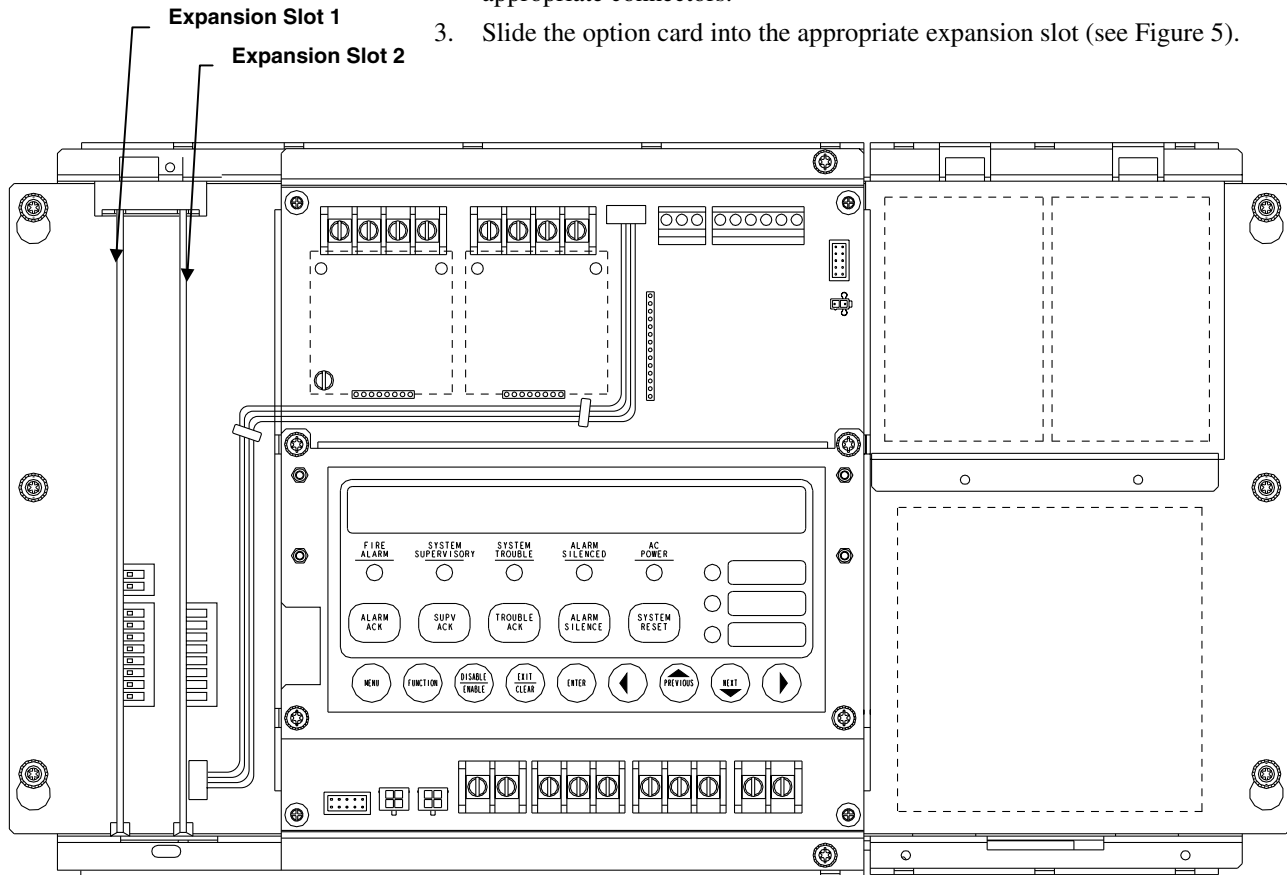

Figure 5. Option Card Expansion Slots
Install a single DACT card in Expansion Slot 2 shown in Figure 5. When an option card is already present, install the additional option card in Expansion Slot 1. Each option card comes with all necessary harnesses and mounting hardware. Use Steps 1 through 5 to install either card into the 4010 FACP.
3. Slide the option card into the appropriate expansion slot (see Figure 5).
3. Using the 733-953 harness, connect one end from P1 of the option card to P1 of the 4010 FACP. P1 on the FACP is located between TB2 and TB3 (see Figure 5).